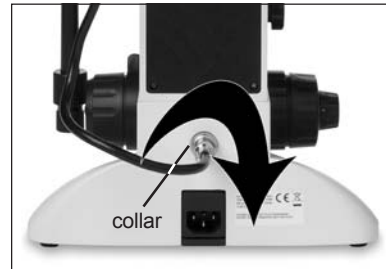

Figure 6
7. Insert the round electrical plug from the lamp housing into the jack located on the rear of the stand (figure 6). Tighten the outer collar to prevent the cable from coming loose.